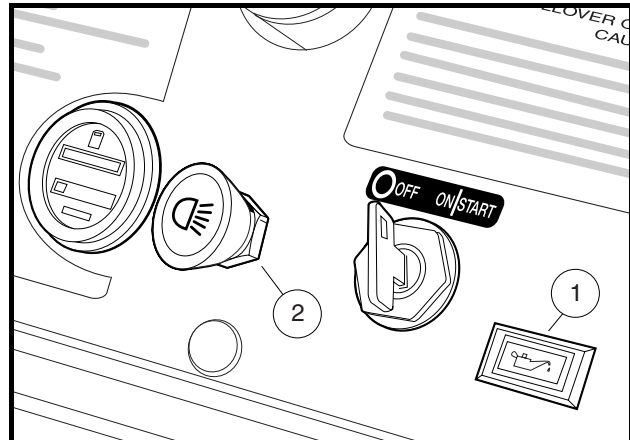

Figure 14 Low Oil Warning light and Headlamp Switch
The gasoline vehicle is equipped with a low oil warning light (1), located on the dash panel to the right of the key switch (**Figure 14**). If the warning light comes on, oil should be checked and added to the engine as necessary before continuing to use the vehicle. The vehicle should never be driven with the low oil warning light remaining on. If the warning light goes on and off, you may proceed, but oil should be added at the first opportunity. If the oil level is correct and the warning light stays on, have a trained technician check the vehicle. **See following CAUTION.**
The headlamp control (2) is located on the dash to the left of the key switch (**Figure 14**). Pull out to turn the lamps on, push in to turn the lamps off. The headlamps operate on 12 volts DC from the battery. **See following NOTE.**